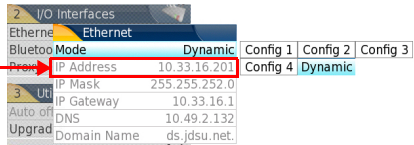

Figure 25 Example of configuration for I/O Interfaces box
- 2 Considering 10.33.18.93 is the IP Address of the 2000 Platform (as shown Figure 25 on page 69), enter the following address in the Internet Explorer window: